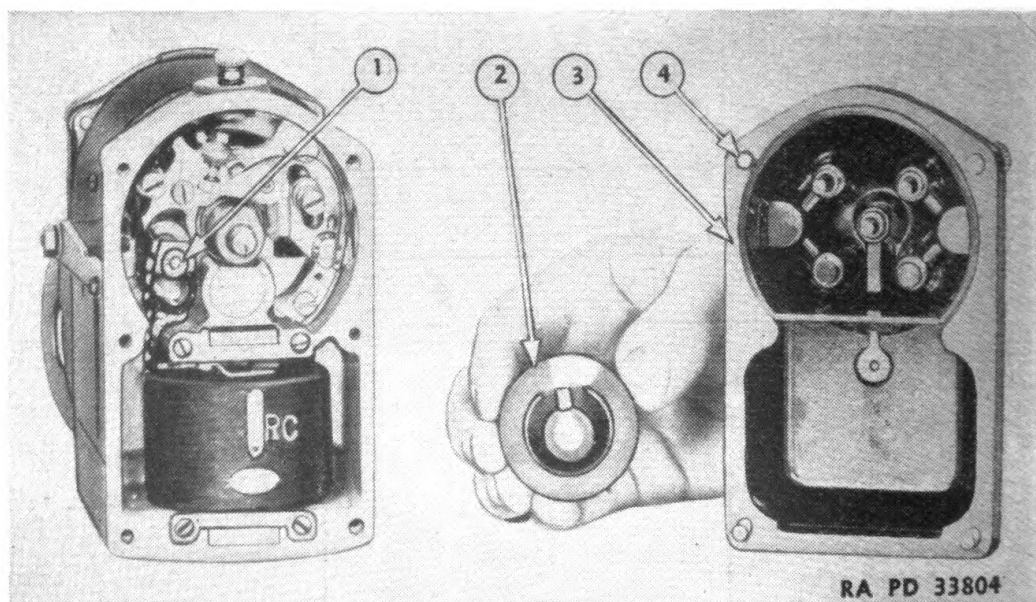

FIGURE 89.—Magneto removal.
87. Distributor plate.—Remove distributor plate (fig. 89) by loosening screws (4). Using a clean soft cloth dampened with solvent, dry-cleaning, carefully clean the inside of the plate of carbon dust. The gasket (3) should be replaced if damaged.